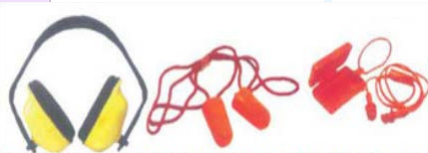

Fig. 8
- ☐ Ear and eye protection. **Fig. 8 & 9**